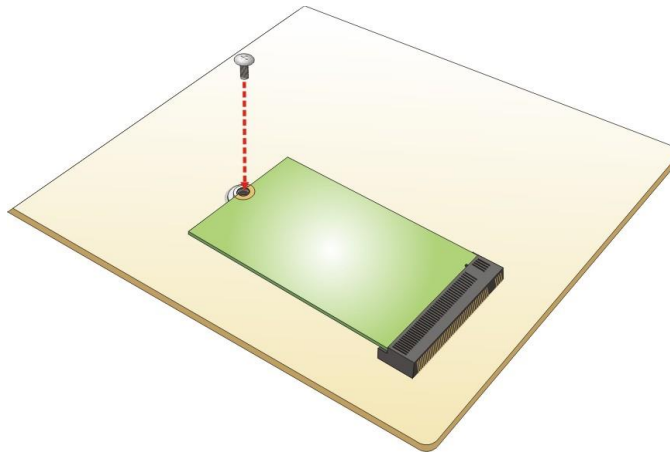

Figure 4-10: Securing the M.2 Module
Step 4: Secure the M.2 module with the previously removed retention screw (**Figure 4-10**).